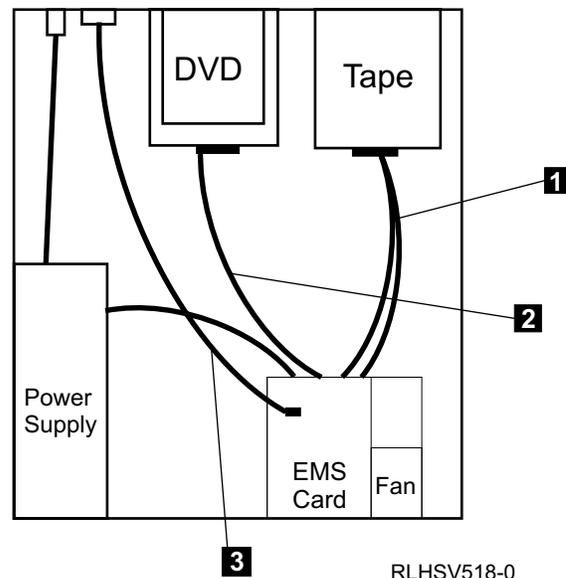

Figure 16. Removing and Replacing the Internal DVD Cable
- c. Ensure that the DVD cable **2** in Figure 16 and internal SAS cable are routed to the correct ESM card connectors. This ensures that the host system identifies each drive correctly. Do not cross the internal cables.